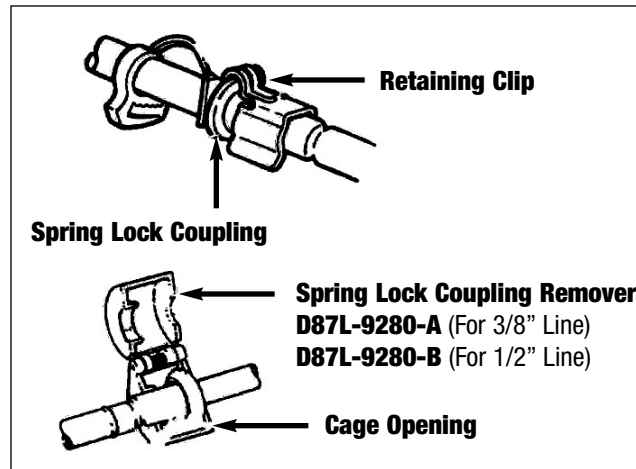

Figure 2 - Disconnecting Fuel Lines
3. Use Spring Lock Coupling Remover (D87L-9280-A) for 3/8" line or (9D87L-9280-B) for 1/2" line. Install spring lock coupling remover on fuel line so it enters cage opening (**See Figure 2**).